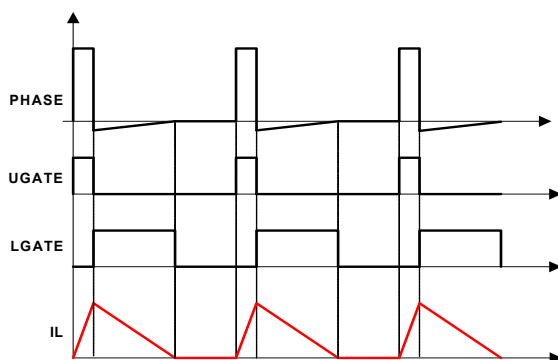

FIGURE 28. DIODE EMULATION
The R3 modulator can operate in Diode Emulation (DE) mode to increase light-load efficiency. In DE mode the low-side MOSFET conducts when the current is flowing from source-to-drain and does not allow reverse current, emulating a diode. As shown in Figure 28, when LGATE is on, the low-side MOSFET carries current, creating negative voltage on the phase node due to the voltage drop across the ON-resistance. The IC monitors the current by monitoring the phase node voltage. It turns off LGATE when the phase node voltage reaches zero to prevent the inductor current from reversing the direction and creating unnecessary power loss.
If the load current is light enough, as Figure 28 on page 32 shows, the inductor current will reach and stay at zero before the next phase node pulse and the regulator is in Discontinuous Conduction Mode (DCM). If the load current is heavy enough, the inductor current will never reach 0A and the regulator is in CCM although the controller is in DE mode.